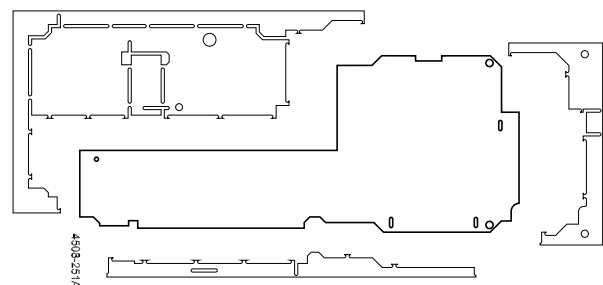

Figure 1.12: Control Board Biscuit
- 3) The replacement Control board will be in biscuit format i.e. it will have to be trimmed to the same size as the existing Control board, see figure 1.12 for the biscuit shape. This is done with a fine pair of side cutters cutting as close to the Control board as possible.